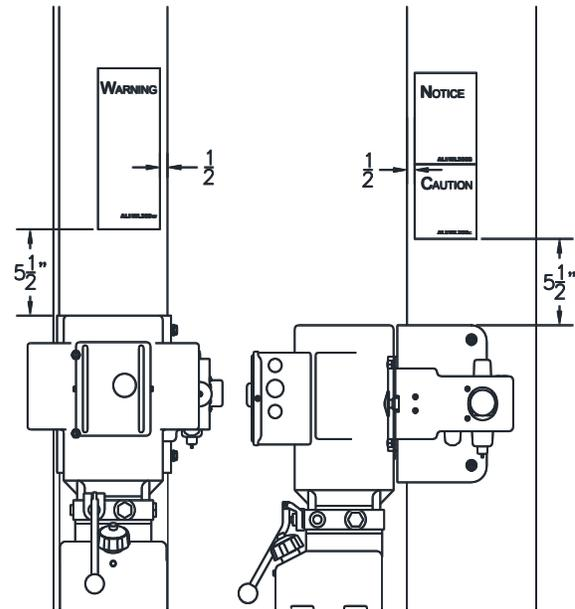

Fig 29 – Warning & Caution Decal
84) Place the Warning Decal, Notice Decal, and Caution Decal as shown in **Fig 29**.